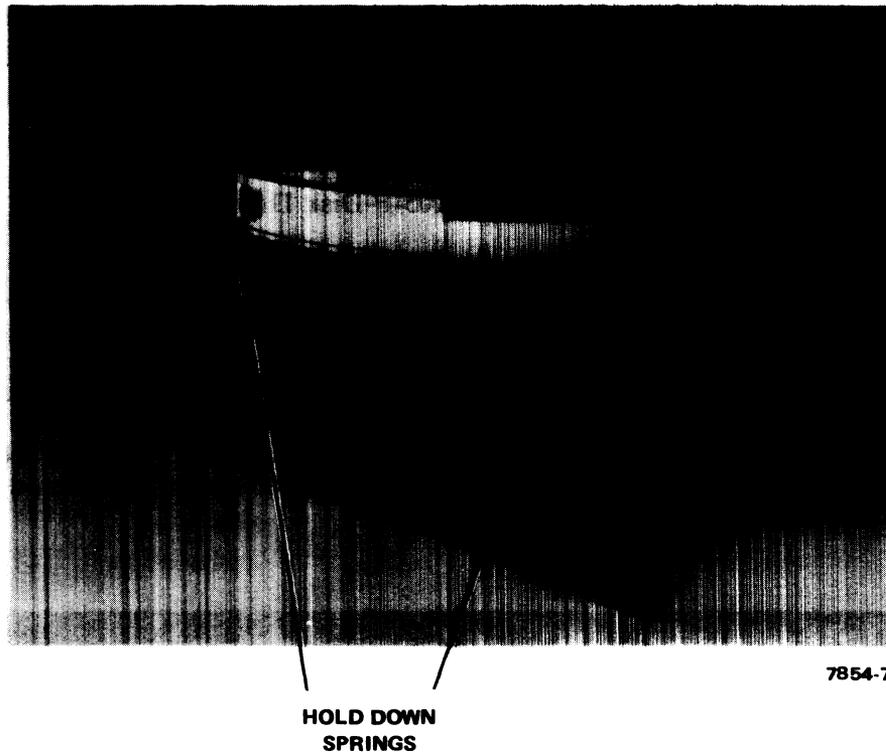

Figure 2-6 RK05-F Cartridge Installed
5. Carefully guide the cartridge into position in the duckbill and over the cartridge-support posts. Hook the springs under the front lip of the base casting (Figure 2-6). Do not overstretch the springs when installing or removing cartridges.